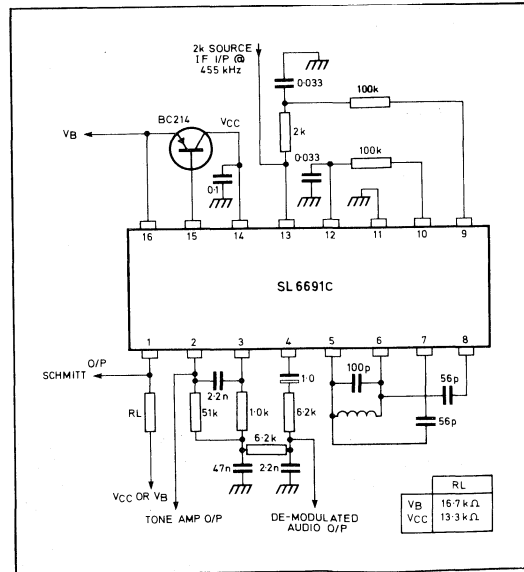

Fig.3 SL6691C test circuit
1. The 'Switch On' time is the time to the zero crossing point of the centre of the first occurrence of a 30/70 or 70/30 mark space wave on the output of the Schmitt trigger after the supply voltage has been switched on. Conditions: V_B = 2V, Tone filter connected (See Fig.3), IF input = 100μV rms, Modulation 500Hz @ 2kHz deviation.